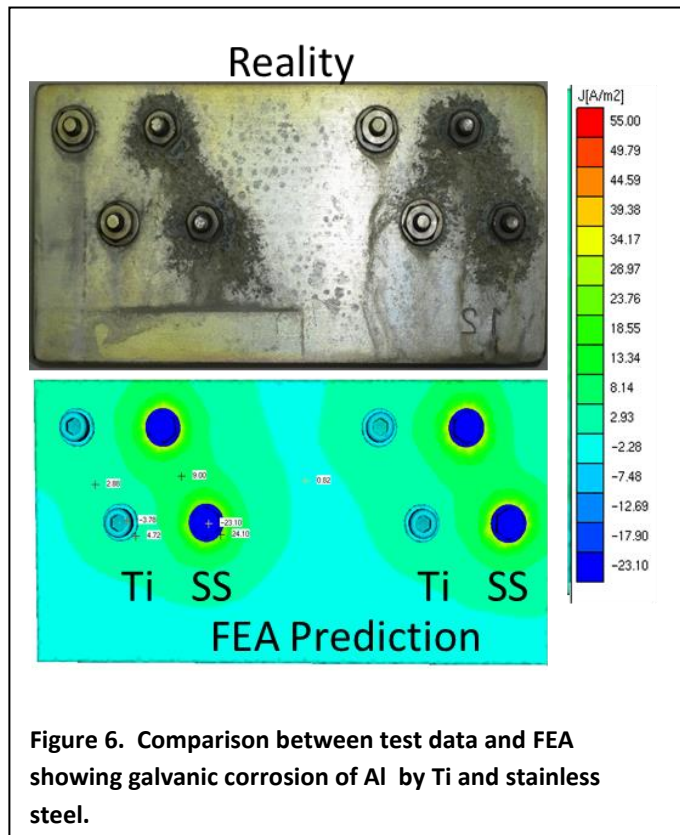

Figure 6. Comparison between test data and FEA showing galvanic corrosion of Al by Ti and stainless steel.
2. Corrosion Djinn™ calculations of corrosion current agree with FEA calculations, and both agree with analytical calculations and laboratory measurements and weight loss (Figure 6).